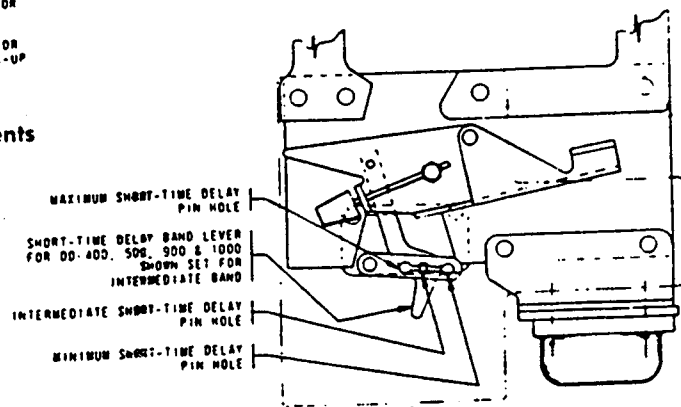

Fig. 11 — Short-Time Delay Band Adjustments
**Short Time Delay Adjustment (See Figure 11)